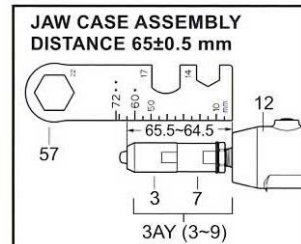
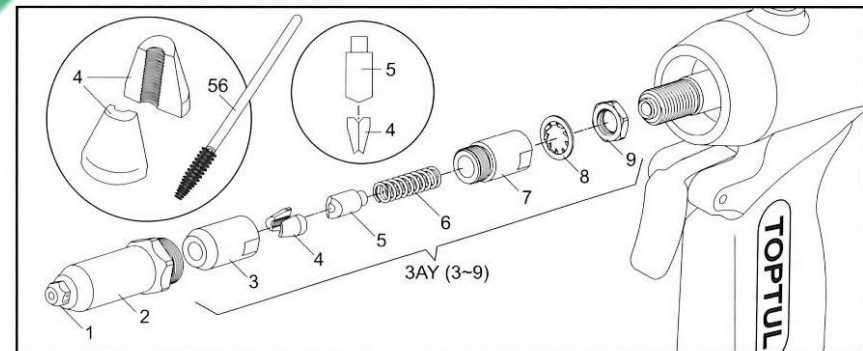

Fig.2
Fig.5
- Check the JAW CASE ASSEMBLY DISTANCE that meets the specification 65 ± 0.5 mm. (Fig.2)
- Carefully check and firmly tighten the all assembly, for example the Jaw Case Assembly (3AY), Working Nosepiece (1), Head (2), Oil Screw Plug (14), Oil Cylinder End Cap (22), Noise Silencer Lock Nut (28), Valve End Cap (46), Air Cylinder End Cap (53), Air Inlet End Cap (55) and air inlet fitting before daily operation etc.
- Check to ensure the Trigger (30) operation is normal.
- Unscrew the Head (2) by the Wrench 27-12 (58), dismantle the Jaw Case Assembly (3AY) by the Wrench 22 (57) and Wrench 27-12 (58).
- Check all inner parts, any worn or damaged parts and twisted Jaw Pusher Spring (6) should be replaced. Pay attention to check the teeth of Jaws (4), and replace new Jaws (4) if the teeth are worn out. Also pay attention to the Jaw Pusher (5) and Jaw Pusher Spring (6), replace them if they are seriously worn out or become shorter or twisted.
- Use the Brush (56) to clean the Front Jaw Case (3), teeth of Jaws (4), Jaw Pusher (5), Jaw Pusher Spring (6) and Rear Jaw Case (7). Dip these parts into oil for lubrication. For better lubrication, lightly apply the moly-lithium grease on the back side of Jaws (4) and on the inner slope of Front Jaw Case (3). (Fig.5)
- Use the Wrench 22 (57) to check and adjust the Lock Nut (9) to the recommended jaw case assembly distance 65 ± 0.5 mm (Fig.2), at the same time tighten the Rear Jaw Case (7) and the Lock Nut (9) firmly by the Wrench 22 (57) and Wrench 27-12 (58). Finally, use the Wrench 27-12 (58) to reassemble the Head (2) firmly.
- Connect the tool to the compressed air supply system. It is suggested to depress the Trigger (30) twice to adjust the inner parts of Jaw Case Assembly (3AY) moving to the normal position, so that the blind rivet mandrel can be inserted into the Working Nosepiece (1) smoothly.
12. Use the Wrench 22 (57) and Wrench 27-12 (58) to reassemble the Lock Nut (9), Lock Washer (8) and Rear Jaw Case (7) together (Fig.5), then use the Wrench 22 (57) and Wrench 27-12 (58) to adjust and lock the jaw case assembly distance to 65 ± 0.5 mm (Fig.2), finally fasten the Head (2) to the tool. Ensure that the Oil Cylinder End Cap (22) is fastened firmly, the Spent Mandrel Container (24) is fitted well, the Jaw Case Assembly (3AY) and Head (2) are all fastened firmly.